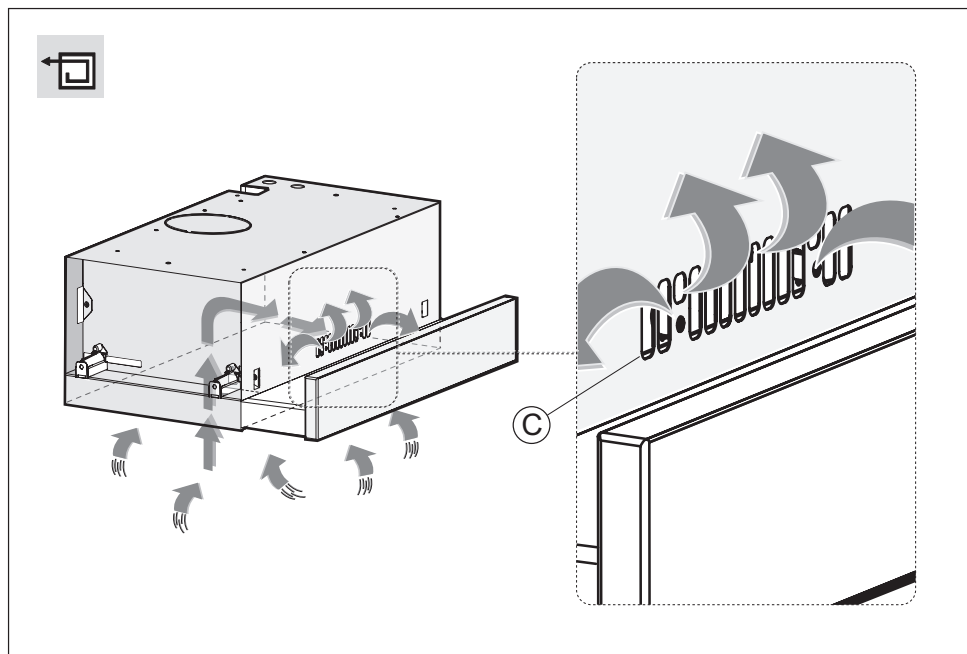

Fig.7
2. spacer **O** (Fig. 7).
The smoke taken in and filtered by the hood re-enters the room through the cracks **C** (figure 7).